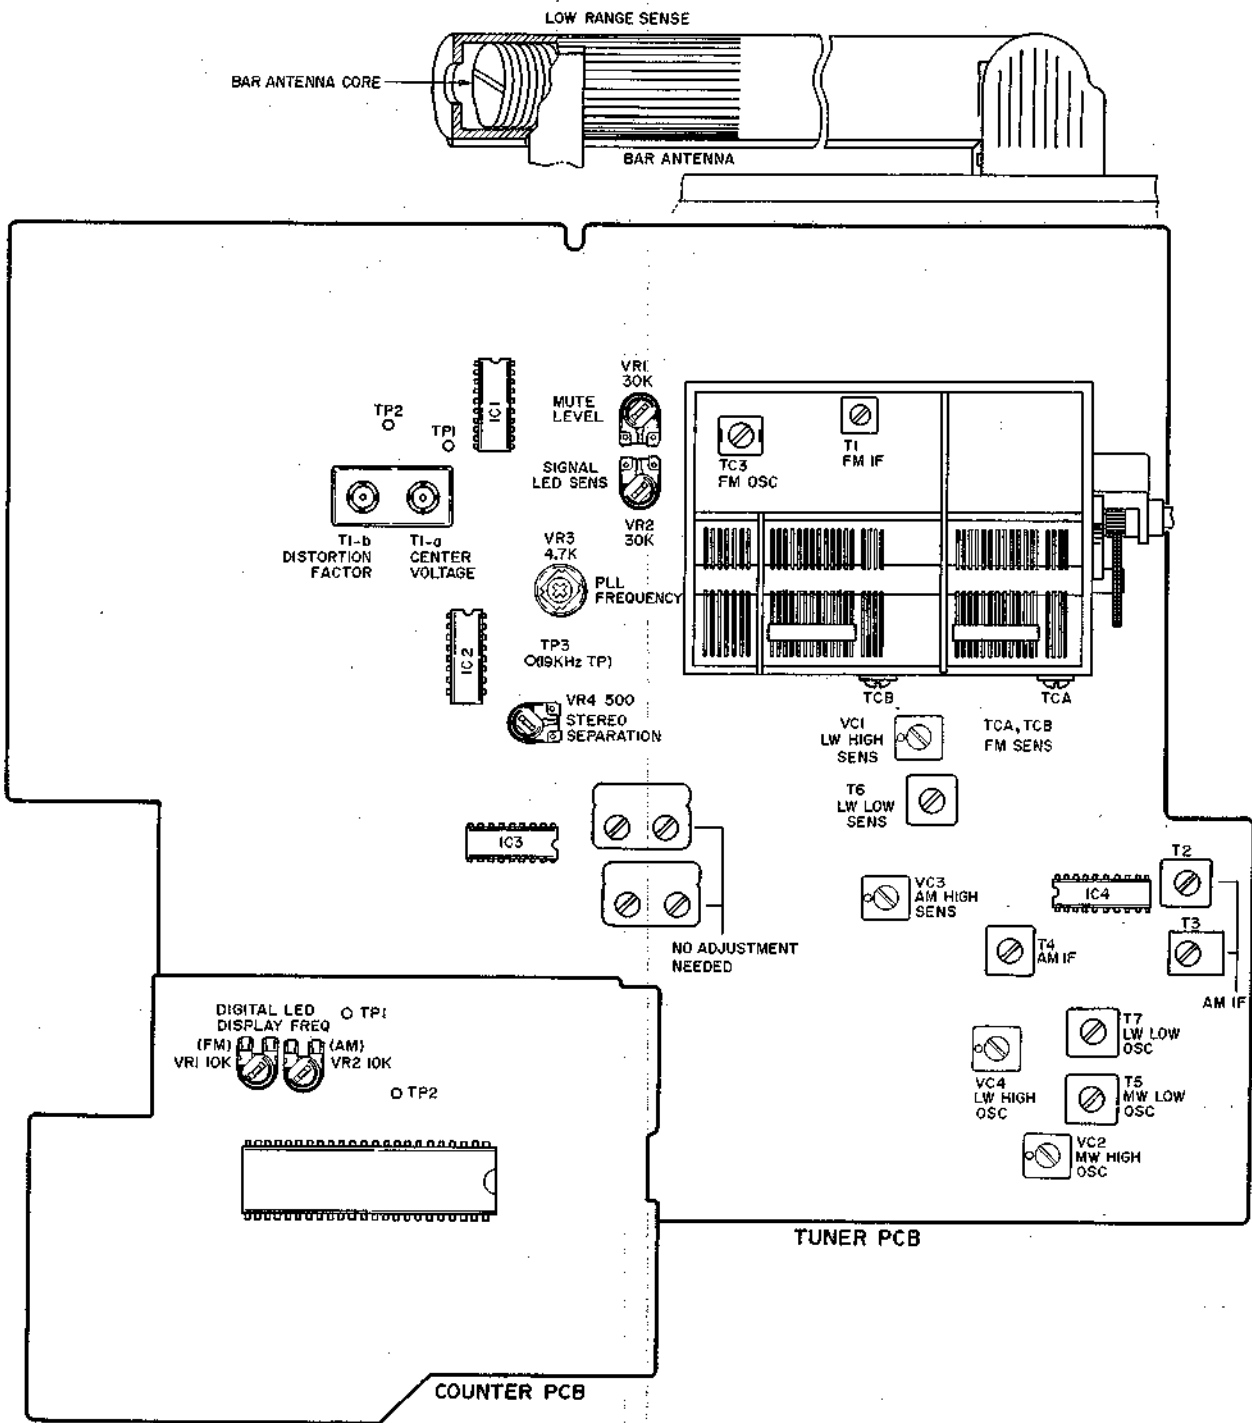

Fig. 6 Tuner P.C Board and Counter P.C Board (Model UC-K3L)
Unless otherwise specified, use the adjustment points provided on the Tuner P.C Board (Fig. 6)
3) LW Section Adjustment (UC-K3L Only: Refer to Figs. 6, 10)